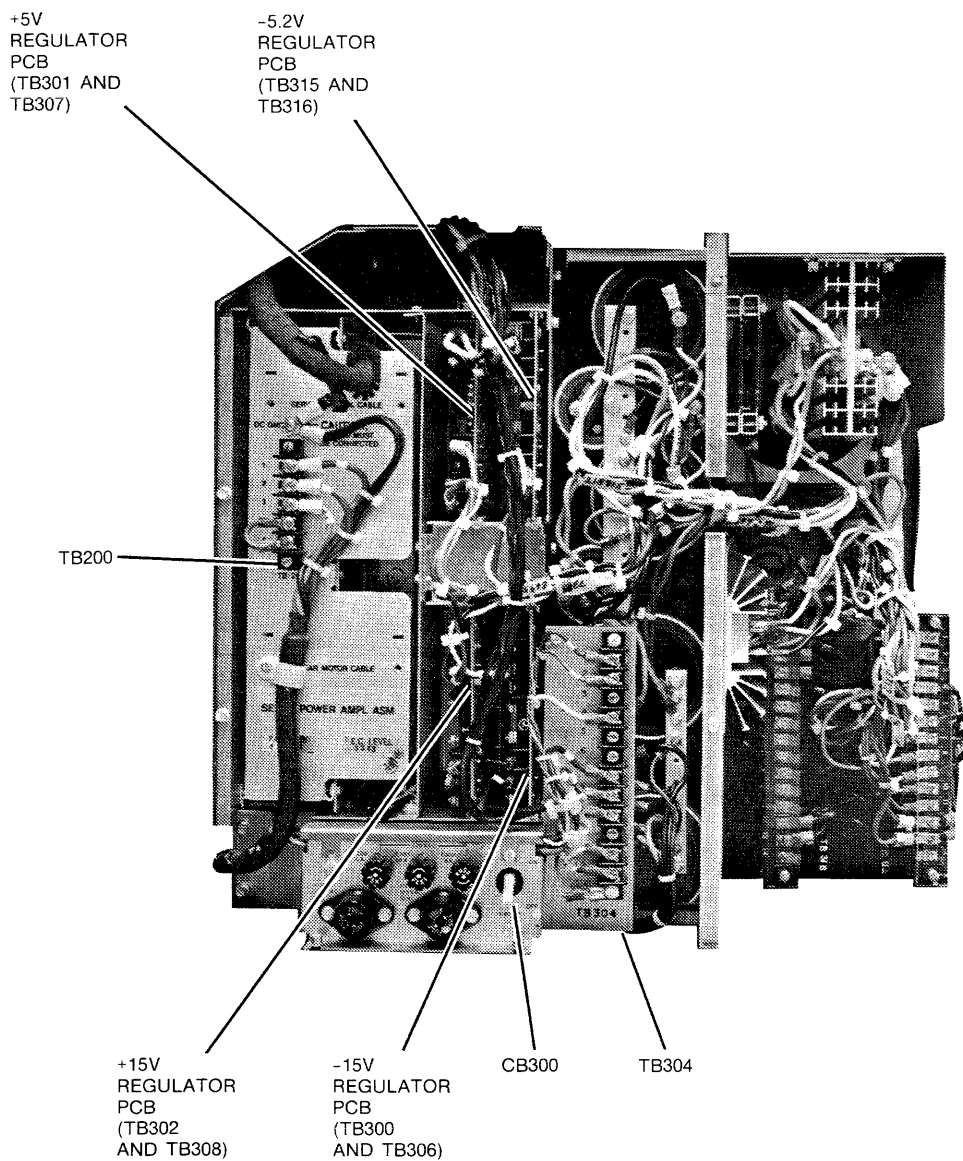

FIGURE 2-7. REAR VIEW, POWER SUPPLY COVER OFF
- ✓ 1. Check TB304 located on the front of the power supply, at the rear of the drive (see Figure 2-7). To access into the power supply, its cover must be removed by loosening two screws (in open slotted holes) down the left side, removing two screws down the center, then pulling out.
- ✓ 2. Check four regulator PCBs, located in the power supply (see Figure 2-7).
- ✓ 3. Check TB200 on the servo power amplifier (see Figure 2-7).
Verify greater than two megohms resistance between the ground terminal on TB304 (Figure 2-7) and the frame.
1. Set CB300 on the power supply to ON (see Figure 2-7).